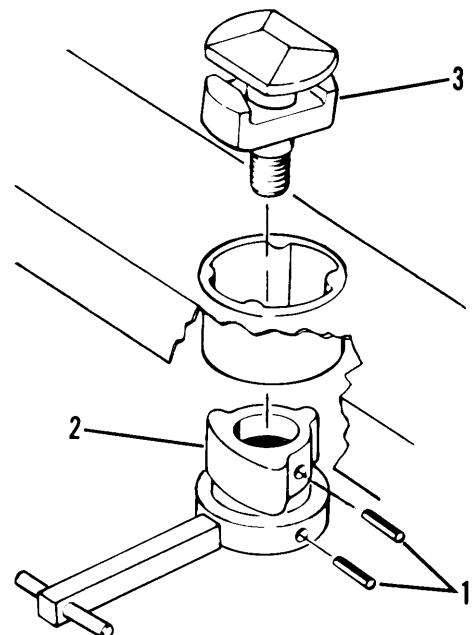
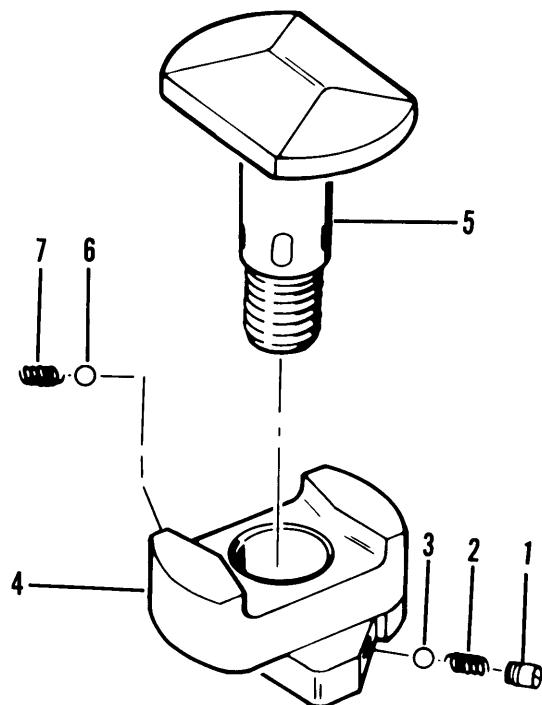
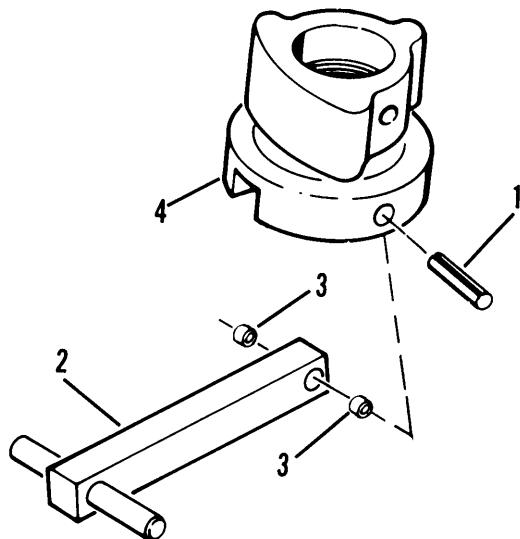

Figure 4-46. Retractable Twist Lock
Figure 4-47. Retractable Twist Lock Upper Assembly
Figure 4-48. Retractable Twist Lock Lower Assembly
- (1) Lower lock.
- (2) Drive out pin (1, fig. 4-46) and remove lower assembly (2) by turning clockwise.
- (3) Remove upper assembly (3), taking care not to separate locator block and bayonet.
- (a) Remove setscrew (1, fig. 4-47), spring (2) and ball (3).
- (b) Separate locator block (4) and bayonet (5).
- (c) Remove ball (6) and spring (7).
- (2) Lower assembly.
- (a) Remove pin (1, fig. 4-48).
- (b) Remove handle (2) and two spacers (3) from base cap (4).
(1) Lower assembly.
- (a) Install handle (2, fig. 4-48) and two spacers (3) to base cap (4).
- (b) Install pin (1).
(2) Upper assembly.
- (a) Place spring (7, fig. 4-47) and ball (6) into position.
- (b) Install locator block (4) to bayonet (5).
- (c) Install ball (3), spring (2) and setscrew (1).
(1) Install upper assembly (3, fig. 4-46).
(2) Install lower assembly (2). Turn clockwise and align holes for pin (1).
(3) Install pin (1).